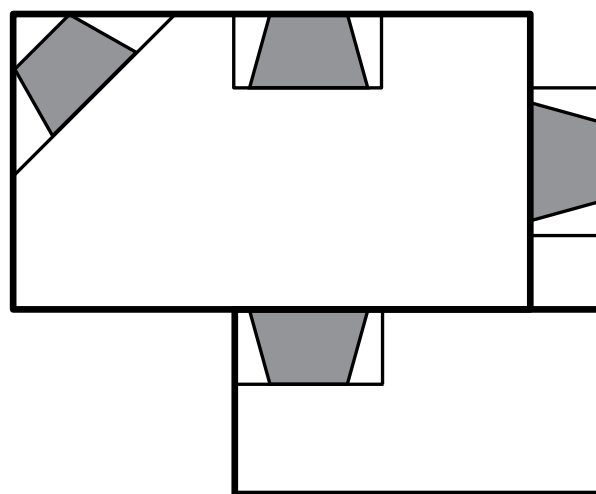

Figure 5.2 Location of Firebox
- Minimize modifications to existing construction. Refer to Figure 5.2 for location suggestions.